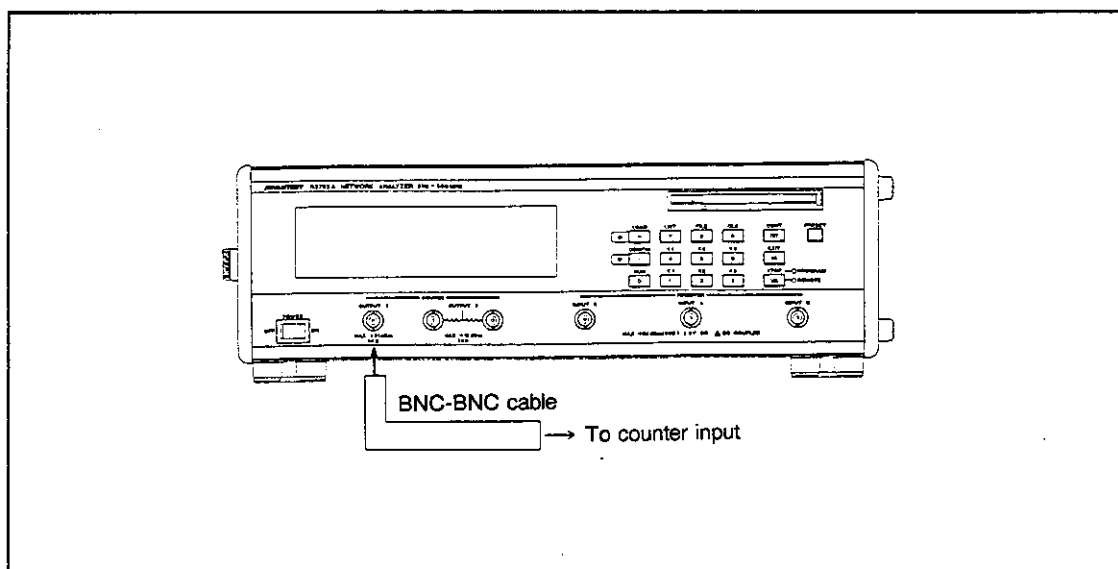

Figure 5-1 Frequency Accuracy and Range
- ① Set up the network analyzer as shown in Figure 5-1.